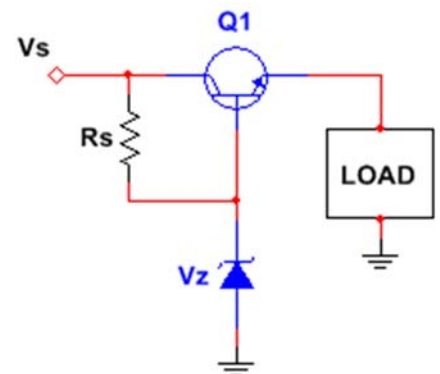

Fig. 8: Circuit for Problem 8.
8) Design a zener follower (see Fig. 8) for a load rated at 6V @ 50 mA. The input voltage V_S is 7 to 9V. Some design constraints: